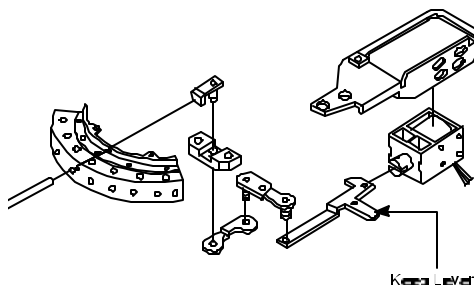

Figure 1
2. **Disengage** Thread Keep Lever. See *Figure 1*.